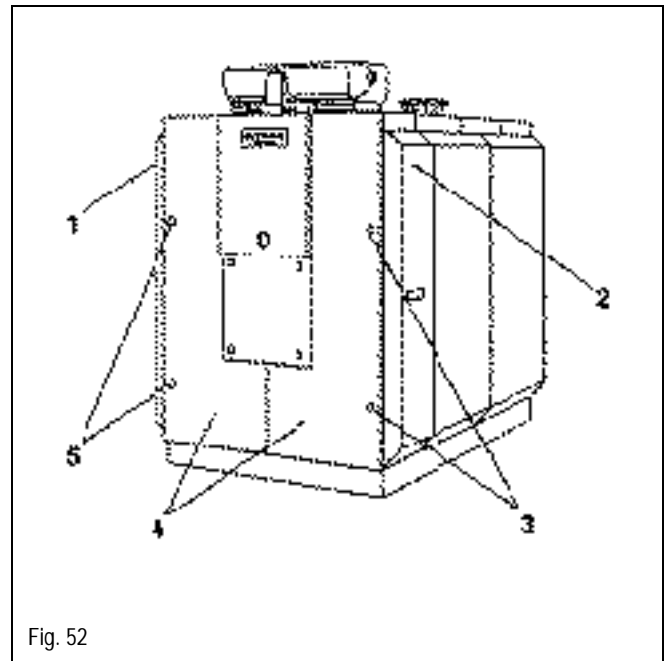

Fig. 52
- Lift up at the hand holes the front left and right side panels (1,2) slightly and remove (Fig. 52).
- Remove burner door bolts (3,5) and open burner door (Fig 52).